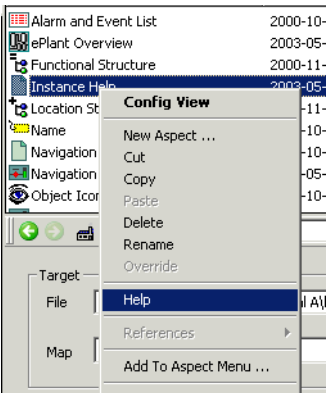
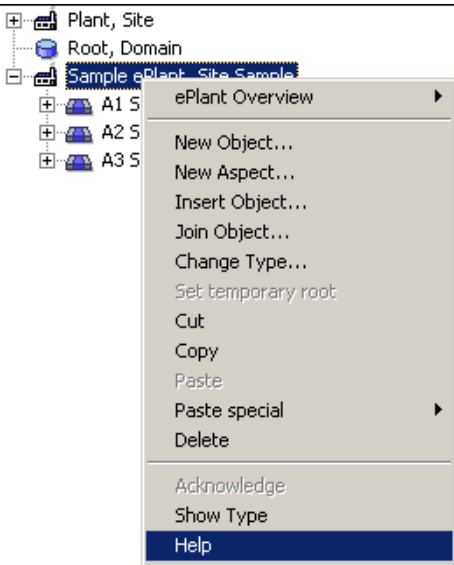

Figure 245. Aspect Context Menu - Help Aspect
Figure 246. Object Context Menu - Help Aspect
6. To view the help file, right-click on the object or the Help aspect and select **Help** from the context menu, see Figure 245 and Figure 246.